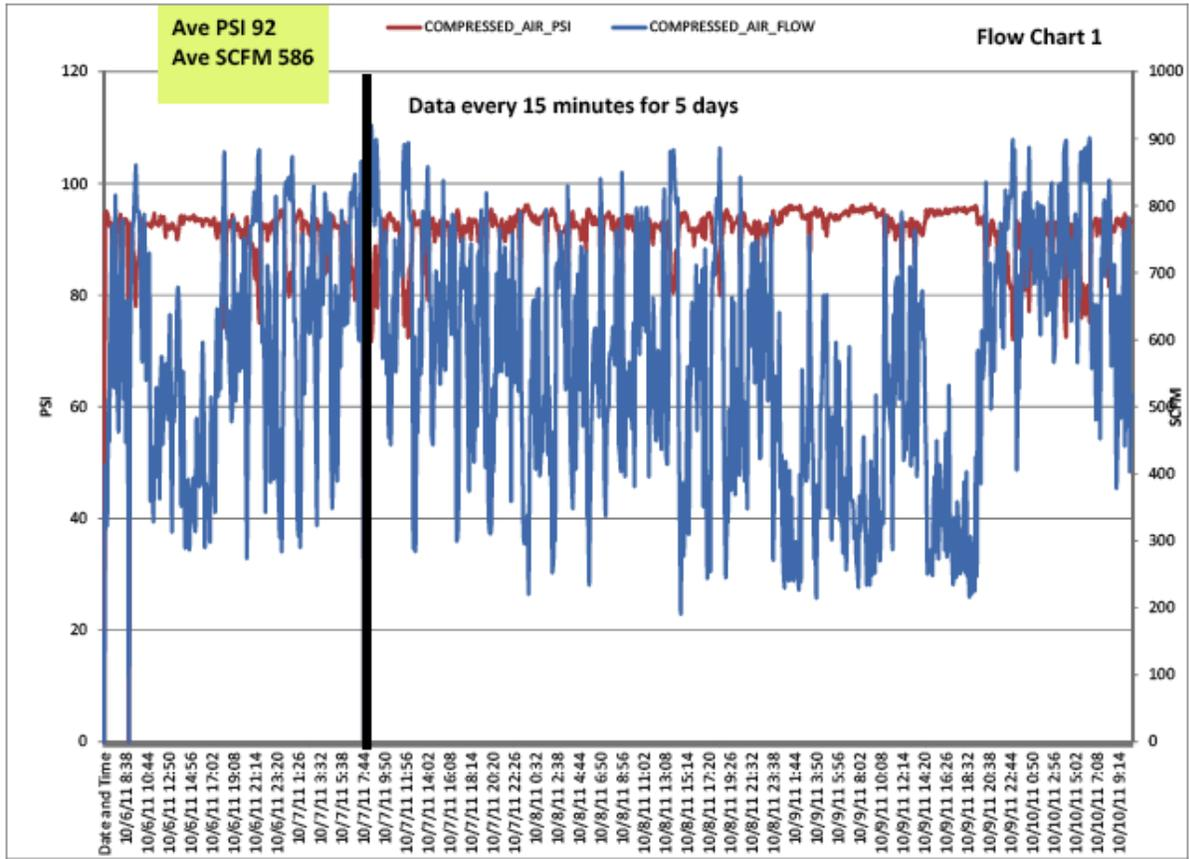

Figure 6. Flow Chart 1 represented an average flow of 586 scfm at 92 psig.
- Flow Chart 1 (Figure 6) represented five days of measurement with data points plotted and averaged every 15 minutes. Conclusion: an average flow of 586 scfm at 92 psig. There are apparent short duration flow peaks up to about 900 scfm.